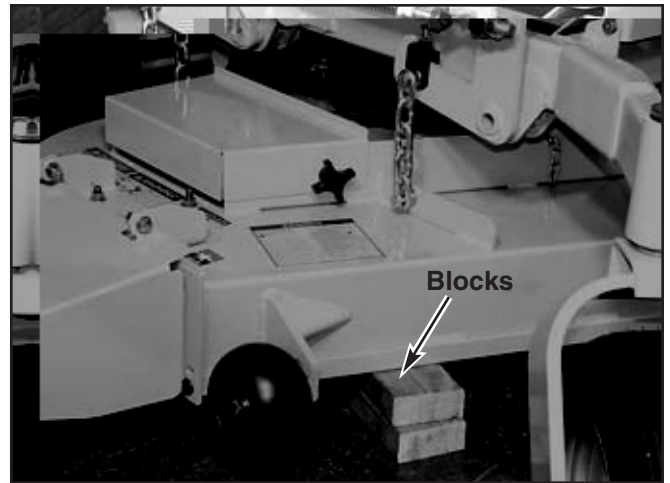

Figure 5-15
3. Raise deck and place 3" of blocking under all 4 corners of the deck (Fig. 5-15). This will set the cutting height at 3-1/4". **NOTE:** Back of deck will automatically be set 1/4" higher. **NOTE:** When blocking up the rear discharge decks make certain the blocks are not in the discharge opening.